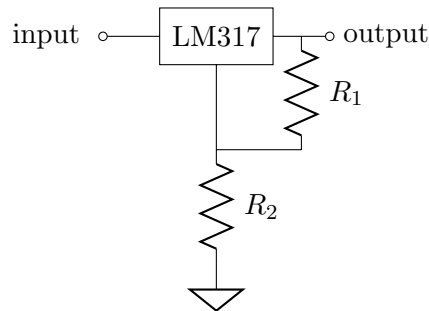

Figure 3: LM317 linear regulator circuit.
- b) For the circuit of Fig. 3, with sing an input voltage of 9V and $R_1=510\ \Omega$, what’s the value of R_2 such that the output voltage is 5 V? What is the efficiency of the regulator in this case? “LM317” refers to the Texas Instruments LM317 voltage regulator IC. You should be able to find its datasheet online.